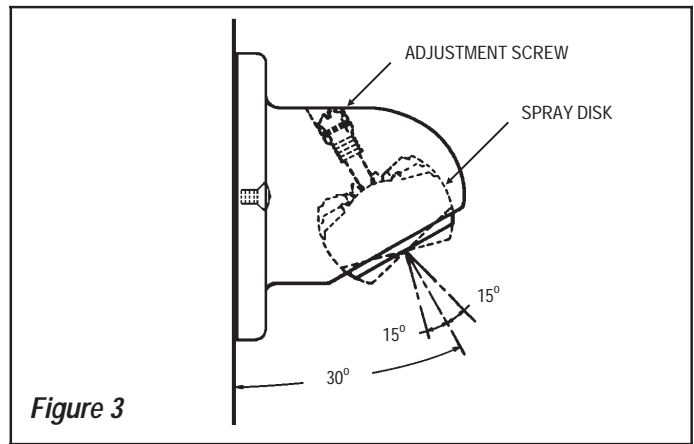

Figure 3
Step 5 — Adjust Direction of Stream (Figure 3)